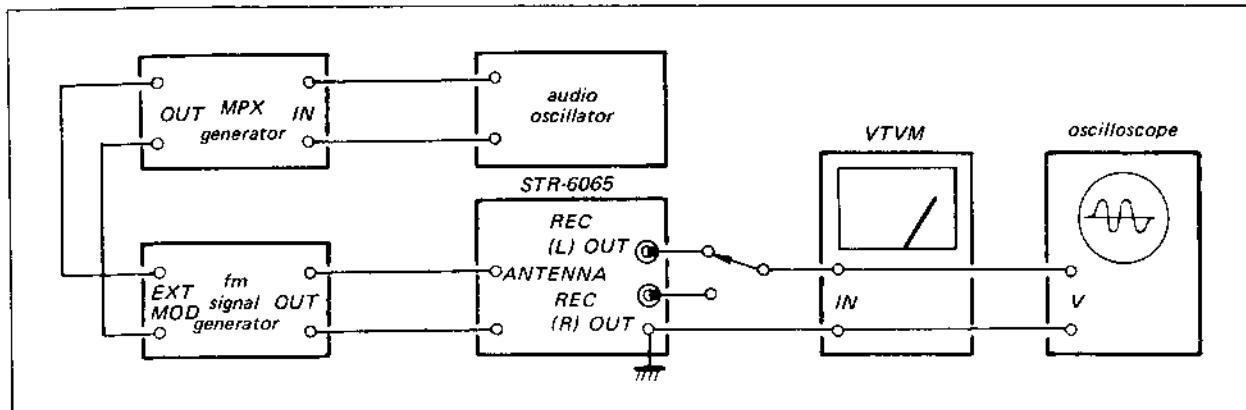

Fig. 3-8. Fm stereo separation adjustment test setup
1. Connect the equipment as shown in Fig. 3-8. Set the fm signal-generator's control as follows:
- (a) With the equipment connected as shown in Fig. 3-8 set the MPX stereo generator controls as follows: